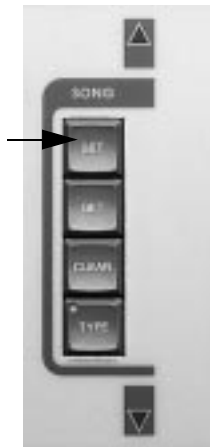
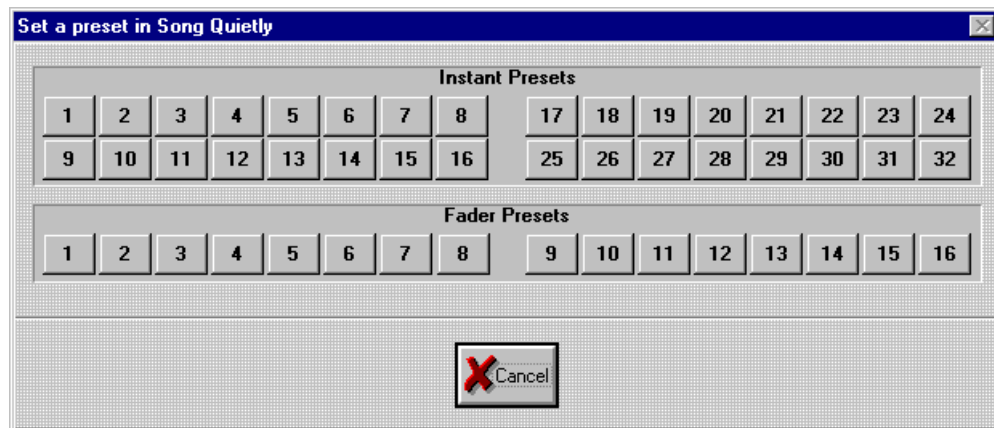
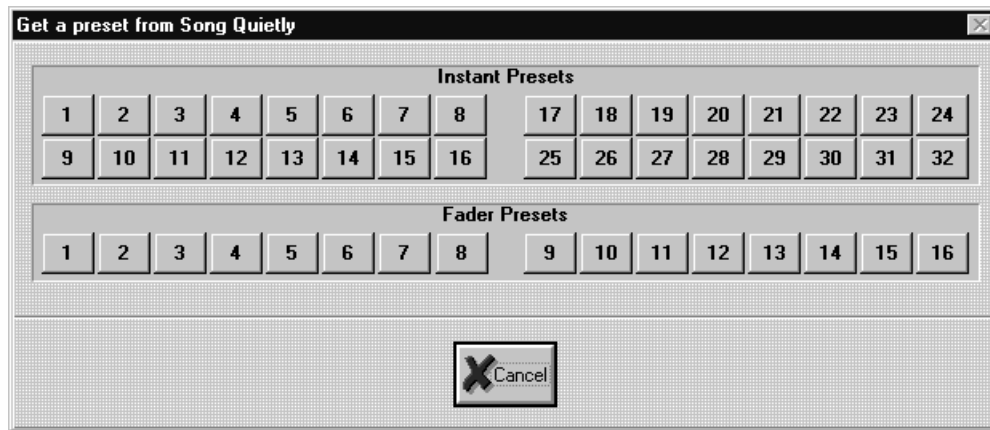

Figure 7.2. SONG Group
Figure 7.3. Set a Preset in Song Dialogue Box
Figure 7.9. Get a Preset From Song Dialogue Box
2. Press the <SET> key in the SONG group (Figure 7.2) to bring up the **Set a preset in Song** dialogue box (Figure 7.3). Alternately, select **Set Preset** from the **Song** drop-down menu.
appear in the Preset of the Song Window (Figure 7.6). Alternately, click the desired Preset in the **Set a preset in Song** dialogue box (Figure 7.3).
1. Press the <GET> key in the SONG group (Figure 7.2) to bring up the **Get a preset from Song** dialogue box (Figure 7.9). Alternately, select **Get Preset** from the **Song** drop-down menu.
2. Press the desired key in the SYSTEM KEYS/INSTANT PRESETS group (Figure 7.4) or FADER PRESET group (Figure 7.5) on the Console to get the Scene or Sequence from the Preset. The Scene or Sequence will be opened on the desktop. Alternately, click the desired Preset in the **Get a preset from Song** dialogue box (Figure 7.9).